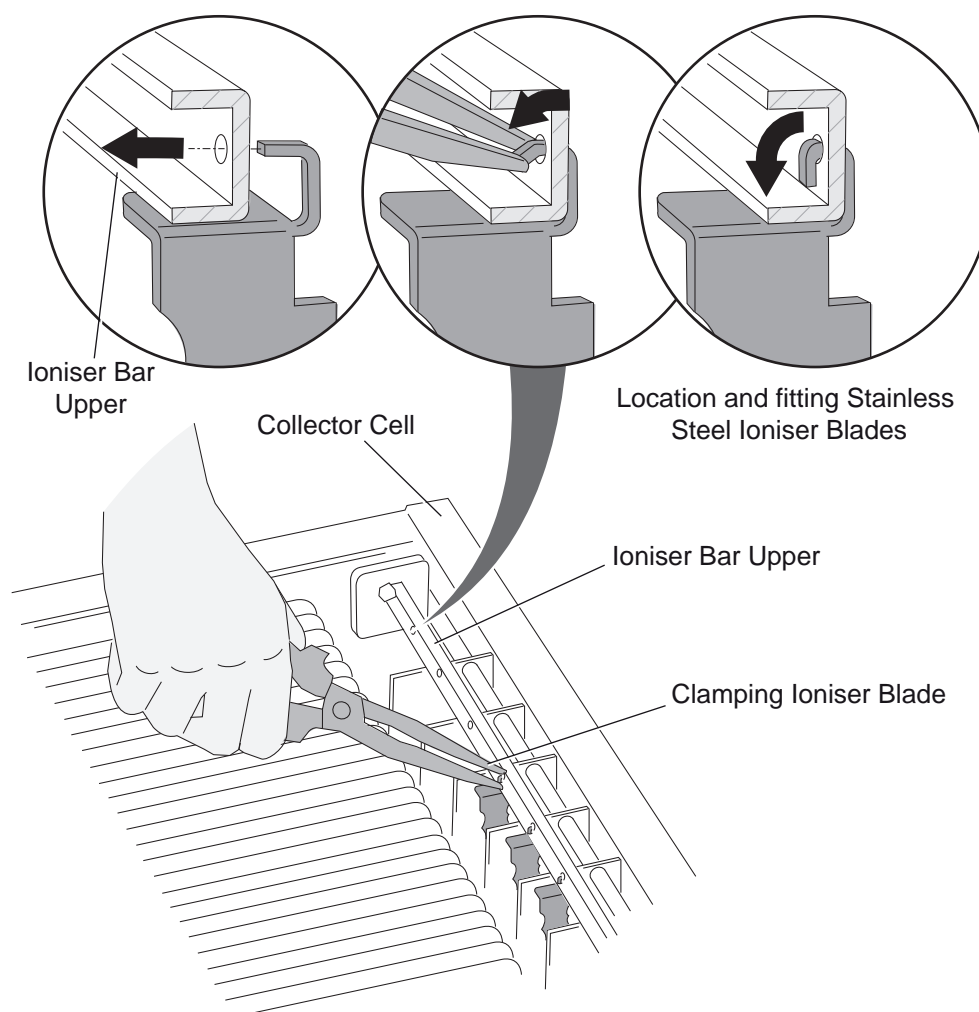

Figure 17 - Fitting Stainless Steel Ioniser Blades
6. Once in place, using a pair of long nosed pliers, carefully bend the lug down to secure the top of the Ioniser Blade into position on the Upper Ioniser Bar (see Figure 17 - Fitting Stainless Steel Ioniser Blades on page 25).